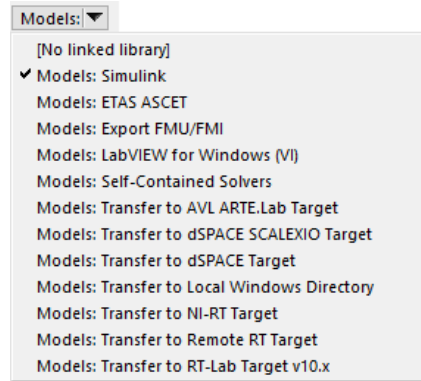

Figure 5. Drop-down list to choose a Model library option.
- 5 **Models** drop-down control. The VS Browser includes a number of screens in the category **Models** that can be used to specify interfaces to RT HIL platforms, third-party software, and custom programs that provide model extensions. The drop-down list (Figure 5) is used to specify a **Models** library for the link.